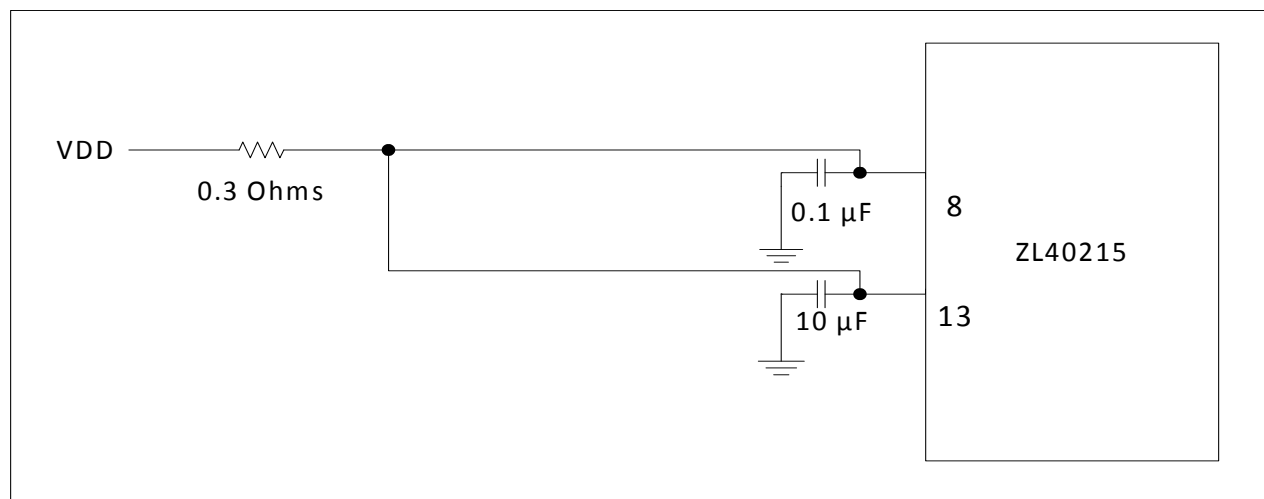

Figure 18 - Decoupling Connections for Power Pins
| Figure 18 - Decoupling Connections for Power Pins . . . . .                       | 14 |
For optimal jitter performance, the device should be isolated from the power planes connected to its power supply pins as shown in Figure 18.
- a 0.3 ohm resistor is recommended for the filter shown in Figure 18
The power nets in Figure 18 can be implemented either as a plane island or routed power topology without changing the overall jitter performance of the device.